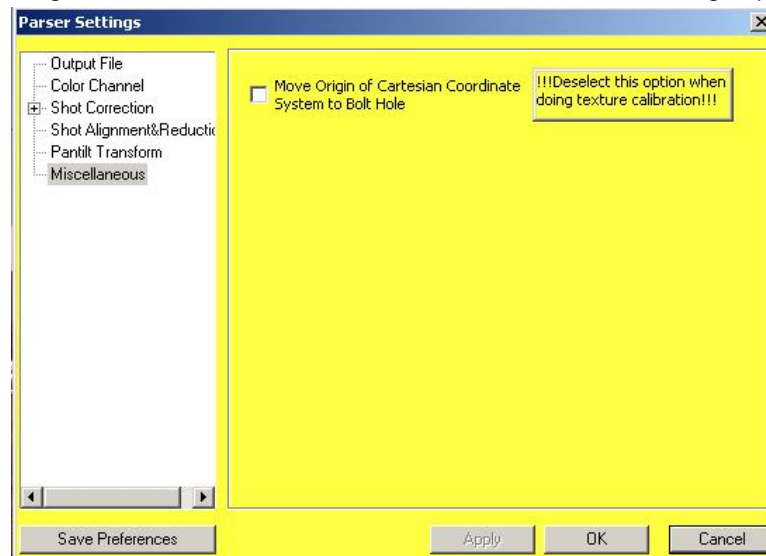

Figure 4: Miscellaneous settings
| Figure 4: Miscellaneous settings..... | 3 |
9. In the Parser Settings list, select **Miscellaneous**. The Miscellaneous settings appear (Figure 4).